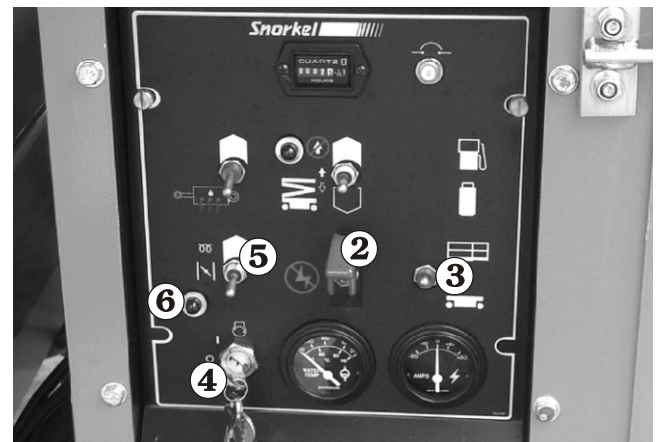

Figure 8.8
- Set the **Emergency Stop** switch **2** to on (up) (see Figure 8.8).
- Set the **Ground/Platform Selector** switch **3** to ground (see Figure 8.8).
- Turn the key **4** to on do not turn the key **4** to start (see Figure 8.8).
- If the engine is at ambient temperature, momentarily press the **Glow-Plug** switch **5**. This action will automatically turn the glow-plugs, in the engine, on for 10 seconds. A light **6** will automatically come on to indicate that the glow-plugs are on (see Figure 8.8).
- When the light ⑥ goes out, turn the key ④ to start and hold it there until the engine starts or for 20 seconds, whichever comes first. When the engine starts, release the key ④ (see Figure 8.8).